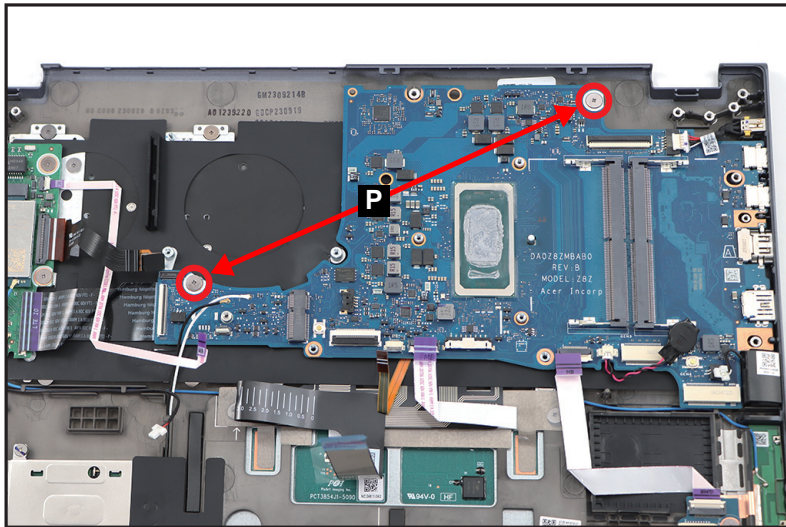

Figure 1-58. Mainboard Removal
15. Remove two (2) screws (P) securing the mainboard in place (Figure 1-58).